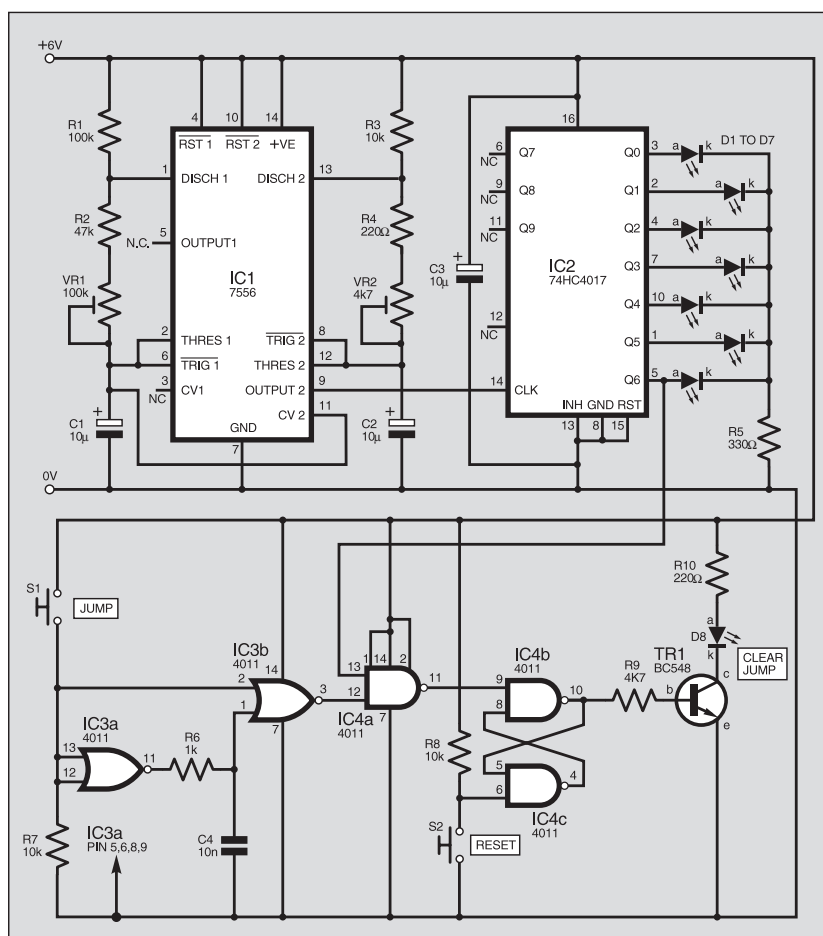

Fig.1. Complete circuit diagram for the Steeplechase Game.
Referring to the Steeplechase Game circuit diagram in Fig.1, IC2 is a decade counter that has 1-of-10 outputs. This
To understand how one timer can influence another we need to look more closely at the connections. In Fig.1 there is a connection between the positive plate of capacitor C1 and pin 11 of IC1. Pin 11 is the control voltage (CV) input of Timer 2.
flying lead connected to 0V and touch it against the individual pin sockets in the socket for IC2. The i.e.d.s should come on one at a time as the appropriate pin is grounded (see Fig.1 to check which i.e.d. should light.)